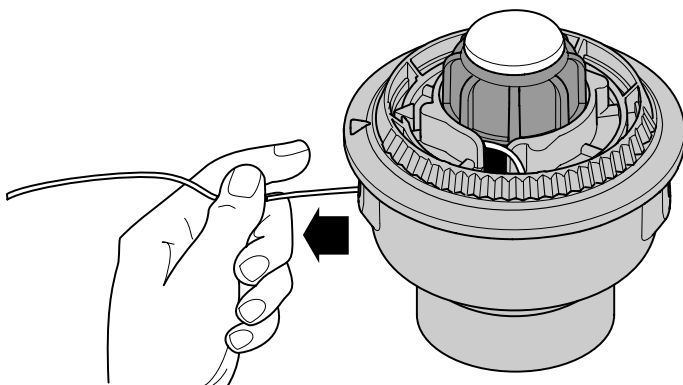

Fig. 16
6. Pull the line from the outer spool until the line is tight against the inner reel (Fig. 16).